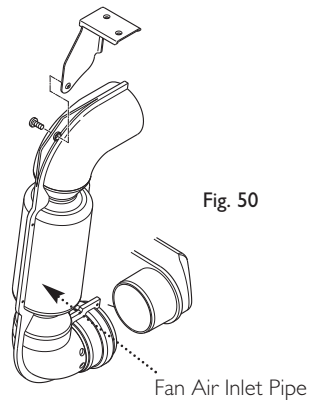

Fig. 50
8. Undo the screw securing the fan air inlet pipe to the bracket on the boiler top panel. Remove the pipe (Fig. 50).